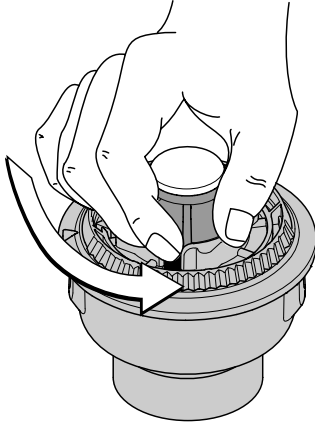

Fig. 25
1. Hold the outer spool, and unscrew the bump knob counterclockwise (Fig. 25).